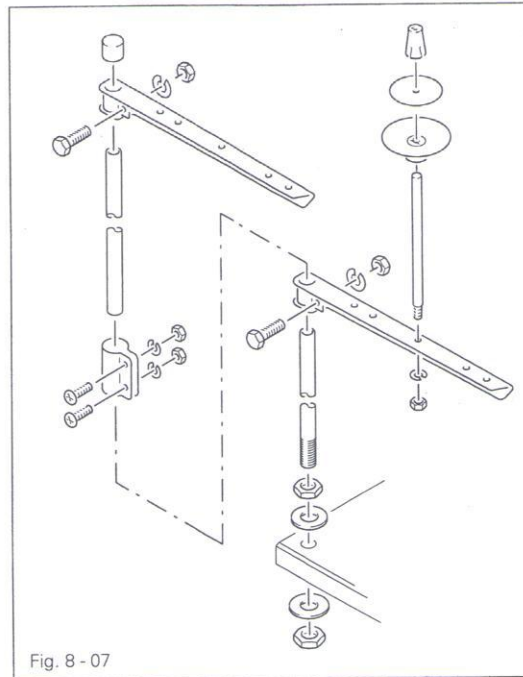

Fig. 8 - 07
- Fit the reel stand as shown in Fig. 8 - 07.